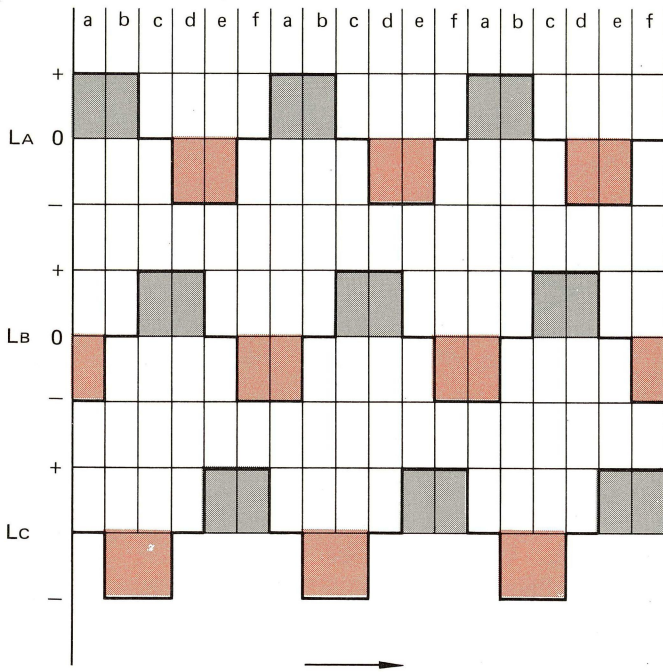
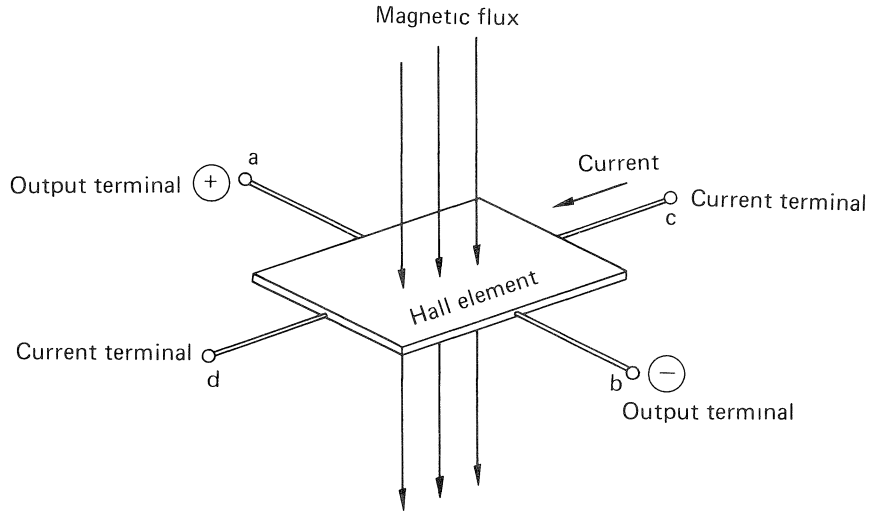

Fig. 8 Drive current waveform
Fig. 10 Hall element and its operation
- a) As shown in Fig. 8, step signals are supplied to the coils. (Generation of step-wave signals will be described later.)
Now, let's see how the motor actually rotates. In order to make the motor rotate, drive currents as shown in Fig. 8 are required. These are generated by the Hall elements and the position signal synthesizer. The Hall elements function as shown in Fig. 10. When voltage is supplied to a Hall element (a semiconductor with a large carrier mobility), the current through electrodes c and d produces a voltage across electrodes a and b which corresponds to the polarity of the external magnetic flux. If the direction of the magnetic flux is reversed, the polarity of the
- b) These signals are step waves as shown in Fig. 10, with relative phase differences of  $120^\circ$  between them.
- d) A current caused by voltage  $V_{CC}$  flows through Q2 – (2) – coil  $L_A$  – coil  $L_B$  – (4) – Q9, causing an N pole to appear at  $L_B$  and an S pole at  $L_A$ .